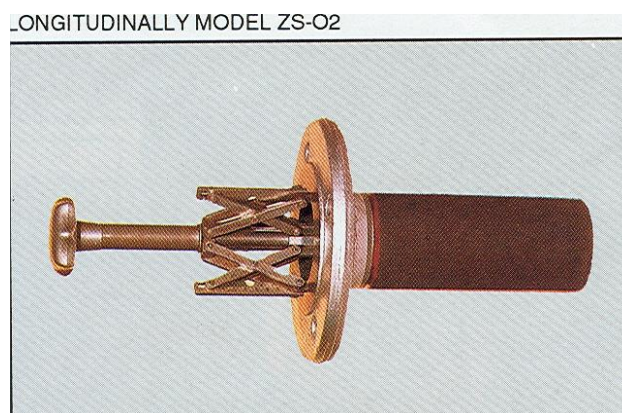

Figure 3. Mechanical Jig for internal centering of two tubes or flange/tube
- a pair of tubes or tube and flange to held, align and weld around is possible with inside mounting Jig with two centering tools. Opening of tools is provided by screw and separate keys (see Figure 3)